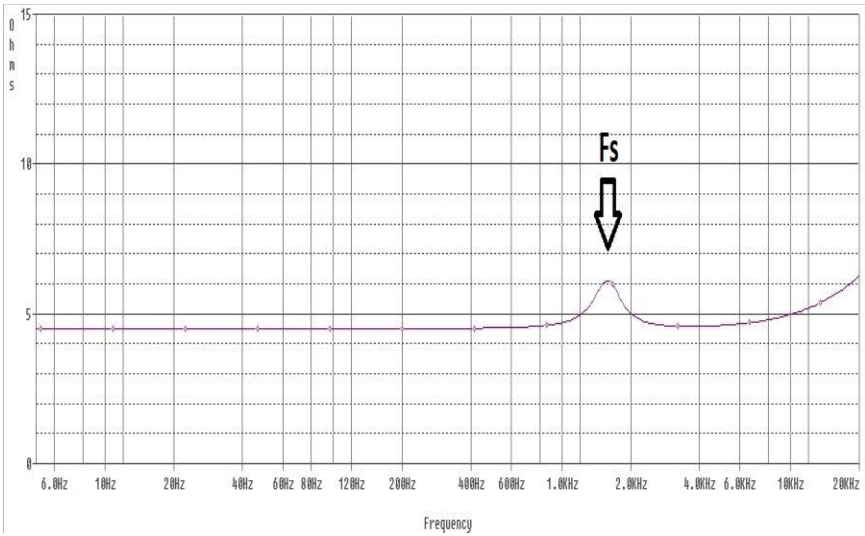

Figure 2, Impedance curve of a typical 4 ohm, 1" tweeter. Notice the  $f_s$  at 1.59 kHz
**Tweeter** - Most tweeters have a measureable  $f_s$  frequency. *There are some types of tweeters, (ribbons for instance) that have an almost flat impedance across its operating range. For this type of tweeter, follow manufacturer's recommendations for crossover frequency.* For all moving coil type tweeters, we can measure the  $f_s$  just like a subwoofer or midbass driver; you just have to look for it more carefully. Typically, the impedance peak is not as high as a subwoofer or midbass driver. Figure 2 shows the impedance curve of a common 1.0 inch tweeter.
Figure 2 shows the impedance peak to occur at 1.59 kHz. This is the  $f_s$  for this tweeter. This information is useful for determining a safe crossover frequency for this tweeter.